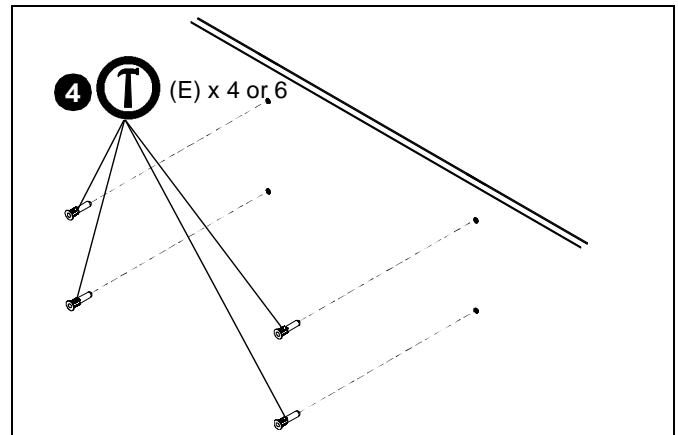

Figure 6
4. Install four or six concrete anchors (E) into drilled holes. Use a hammer to tap anchors into holes. (See Figure 6)